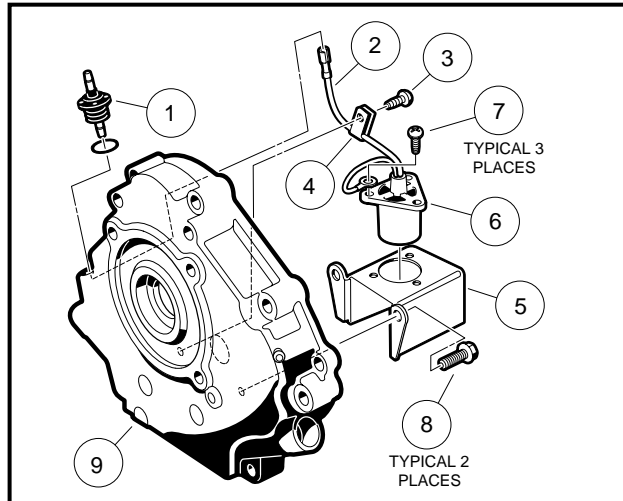

Figure 13-45 Oil Level Sensor
2. Disconnect the oil level sensor wire (2) from the cord connection (1) **(Figure 13-45, Page 13-25).**
3. Remove the screw (3) from the wire clamp (4).
5. If necessary, remove the three screws (7) that hold the sensor to the bracket (5).
1. If the oil level sensor was removed from the bracket, install sensor (6) into bracket (5) and secure with three screws (7) **(Figure 13-45, Page 13-25).** Tighten to 17 in-lb (1.9 N·m).
3. Connect sensor wire (2) to cord connector (1) **(Figure 13-45, Page 13-25).**
4. Install screw (3) through wire clamp and into crankcase cover. Tighten to 30 in-lb (3.4 N·m).